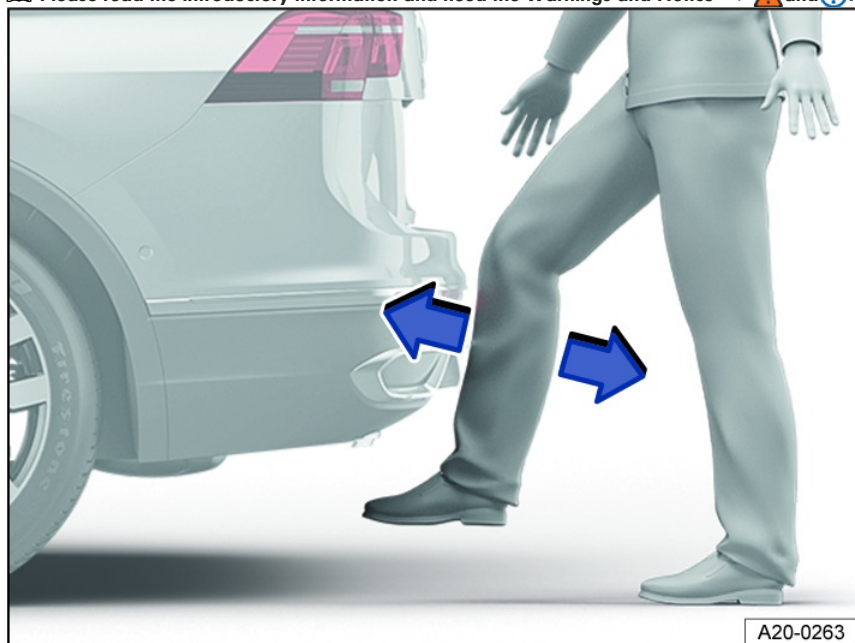

Fig. 55 General example of the trunk lid with sensor-controlled closing (Easy Close).
2. Quickly swing the lower part of your leg close to the bumper fig. 55.